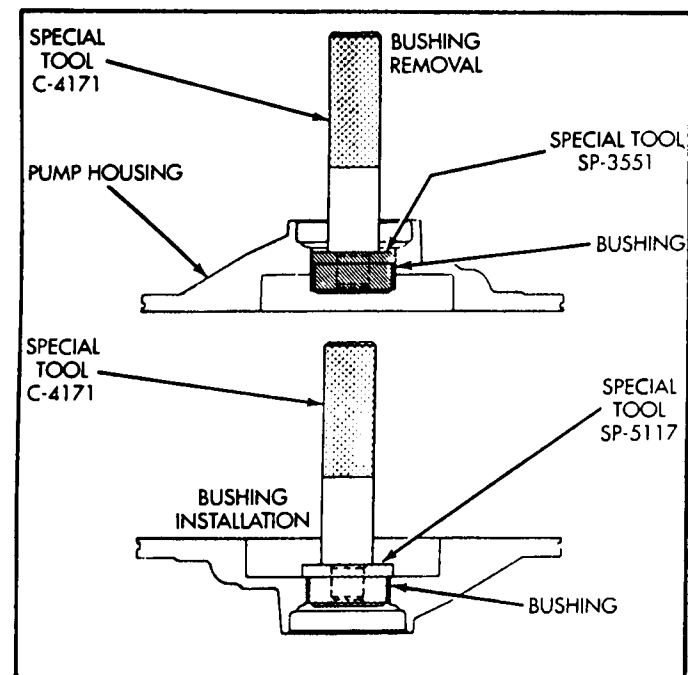

Figure 45
2. Remove the pump body bushing using the driver shown in Figure 45, driving the bushing out towards the pump pocket.
3. Install the new pump body bushing from the pump pocket side, as shown in Figure 45.